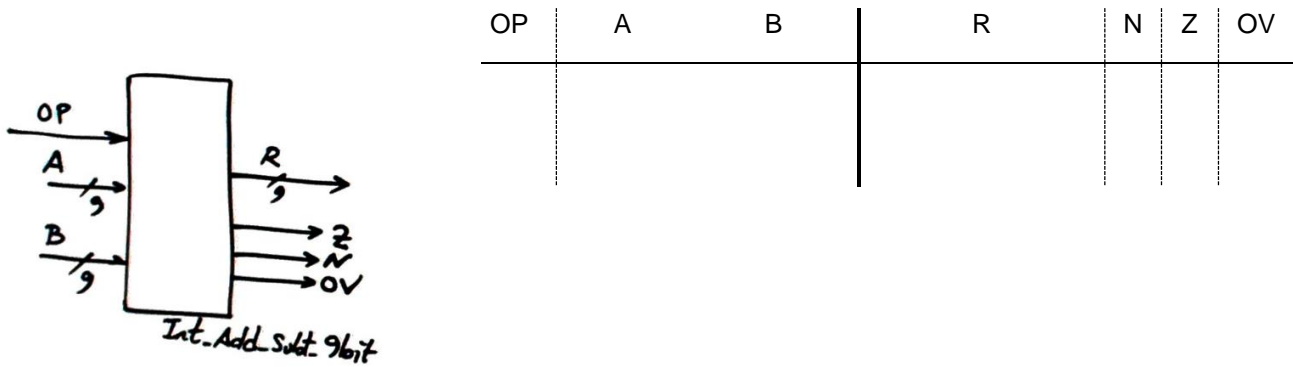

Fig. 5. *Int_Add_Subt_9bit*.
The Fig. 5 shows the symbol of a 9-bit adder/subtractor for integer numbers coded in two's complement.
- d) $(-203) + (203)$
3. Propose and explain a plan C2 hierarchical internal design for the symbol in Fig. 5 capable of solving your algorithm. Design as well your components and other logic circuits that you will require. How many components will be necessary? How many VHDL files will contain this project? Deduce the number of gate-level of your circuit.